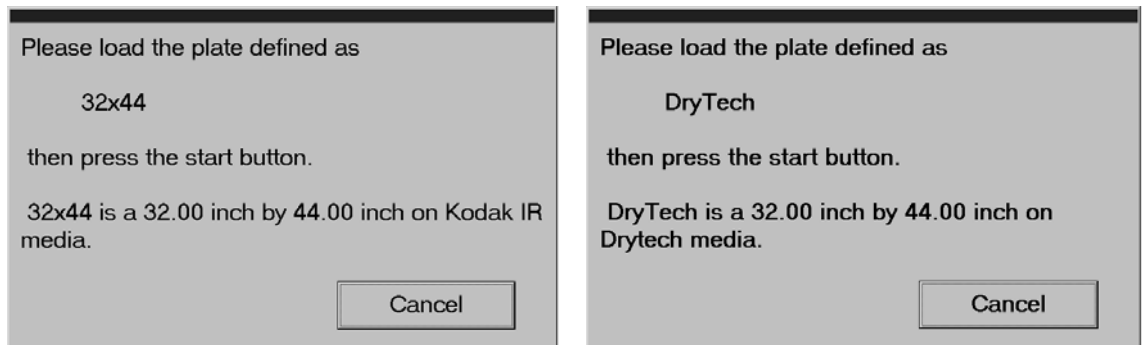

Figure 6: Examples of Load Plate and Load Film dialog box
- The workstation is displaying a Load Plate dialog box, which tells you the size and type of medium to load. See Figure 6 below.